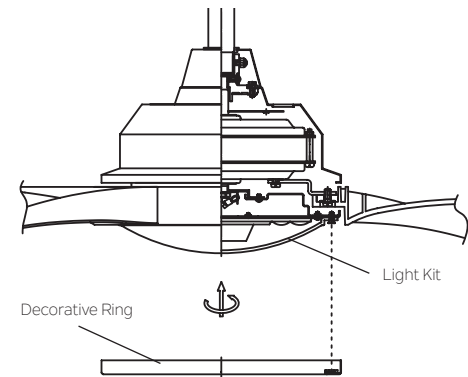

Fig. 18
**Step 4.** Position the notches in the decorative ring so they line up with the tabs on the LED light kit. Carefully lift the decorative ring up inside the light kit and secure it to the fan by turning the decorative ring clockwise until snug. **DO NOT OVERTIGHTEN.** (Fig. 18)